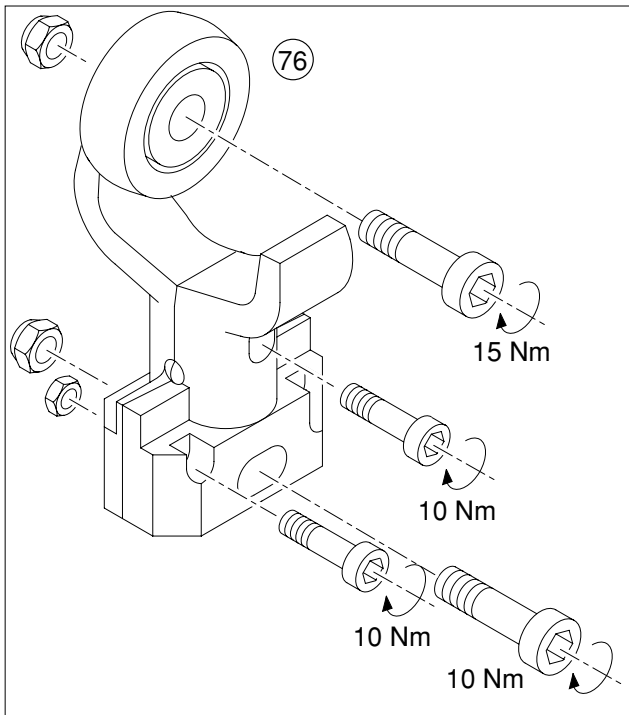

fig.25.1 Closing trolley
2. Connect up the ends of the cable with closing trolley **76**. Install the trolley halves as shown in figure 25.1.